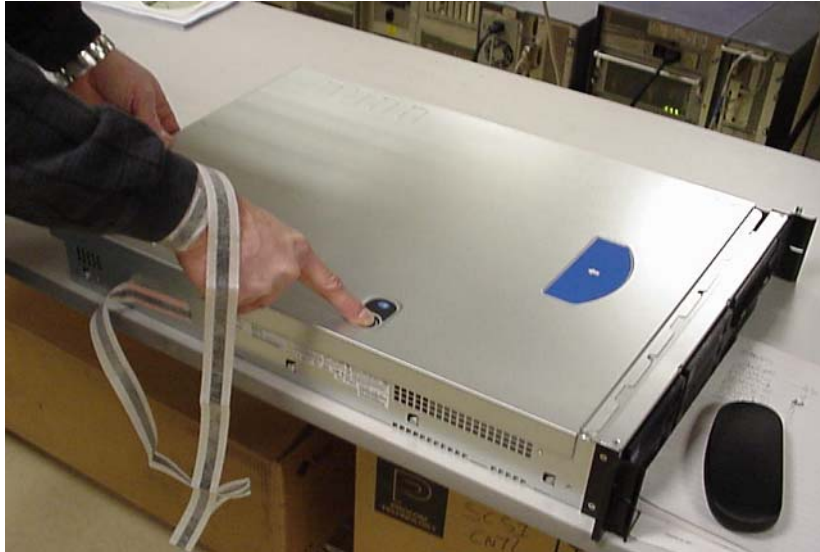

FIGURE 7-1 Removing the Cover
1. **While pressing the blue latch button (A) with your left thumb, push down on the top cover and slide it back using the heel of your right hand on the blue pad (see Figure 7-1).**